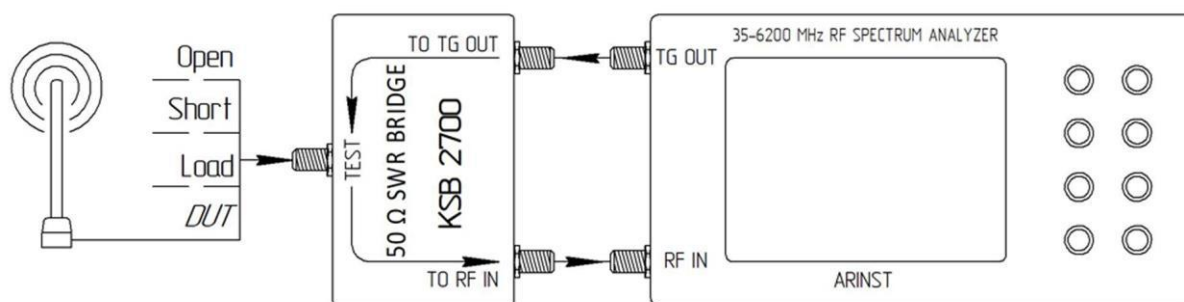

Figure 19 Connecting the measuring bridge to the spectrum analyzer
Note. To measure the reflection coefficient S11, it is necessary to use a directional coupler or measuring bridge at the appropriate frequency range (not included in the package). In our example in figure 19, the KROKS KSB 2700 measuring bridge is specifically designed for use with ARINST spectrum analyzers.
Connect the output of the signal generator (1) TG OUT of the device to the input of the measuring bridge TO TG OUT according to the wiring diagram in figure 19.
Designations in Figure 19:
Note. To measure the standing wave ratio, you must use a directional coupler or measuring bridge (not included in the package). In our example in figure 19, the KROKS KSB 2700 measuring bridge is specifically designed for use with ARINST spectrum analyzers.
Connect the output of the signal generator (1) TG OUT of the device to the input of the directional measuring bridge TO TG OUT according to the wiring diagram in figure 19. Output of the reflected signal from the measuring bridge port TO RF IN connect to the antenna input of the device (2) RF IN.